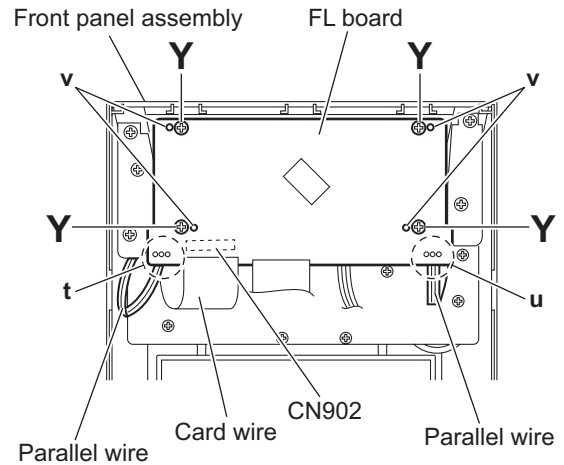

Fig.26
3.1.13 Removing the FL board (See Fig.26)
3.1.16 Removing the encoder board (See Figs.26 to 29)
- (2) From the inside of the front panel assembly, disconnect the card wire from the connector CN902 on the FL board. (See Fig.26.)
- (3) Remove the four screws **Y**, three screws **Z** and two screws **AA** attaching the each board. (See Figs.26 and 27.)
- (4) Take out the FL board with the switch and standby LED boards.